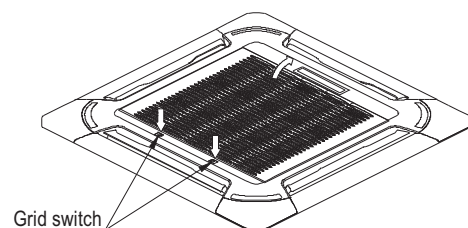

Fig.1-7
- Slide two grill switches toward the middle at the same time, and then pull them up. (Refer to Fig.1-7)